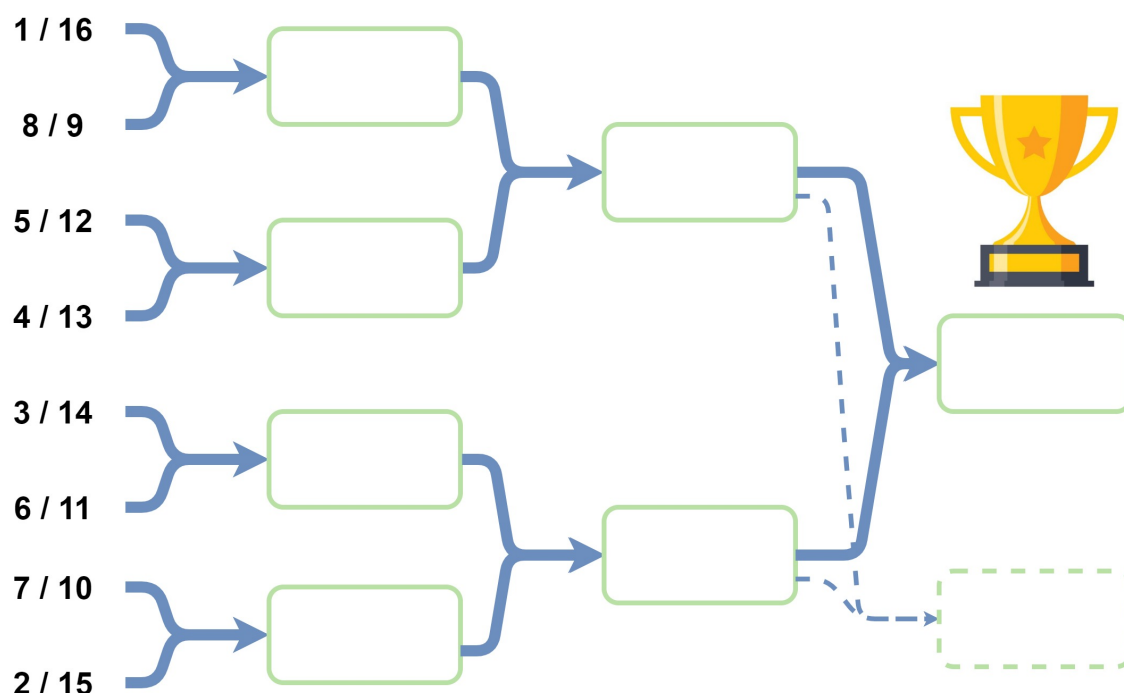

Figure 10: Tree of the final phase
Each team that wins its play-off match will be included in the main draw of the final phase of the match (B). At the end of the play-off phase, the tree of the final phase of the match (B) presented in Figure 10 may be revised to more accurately represent the level of each team.